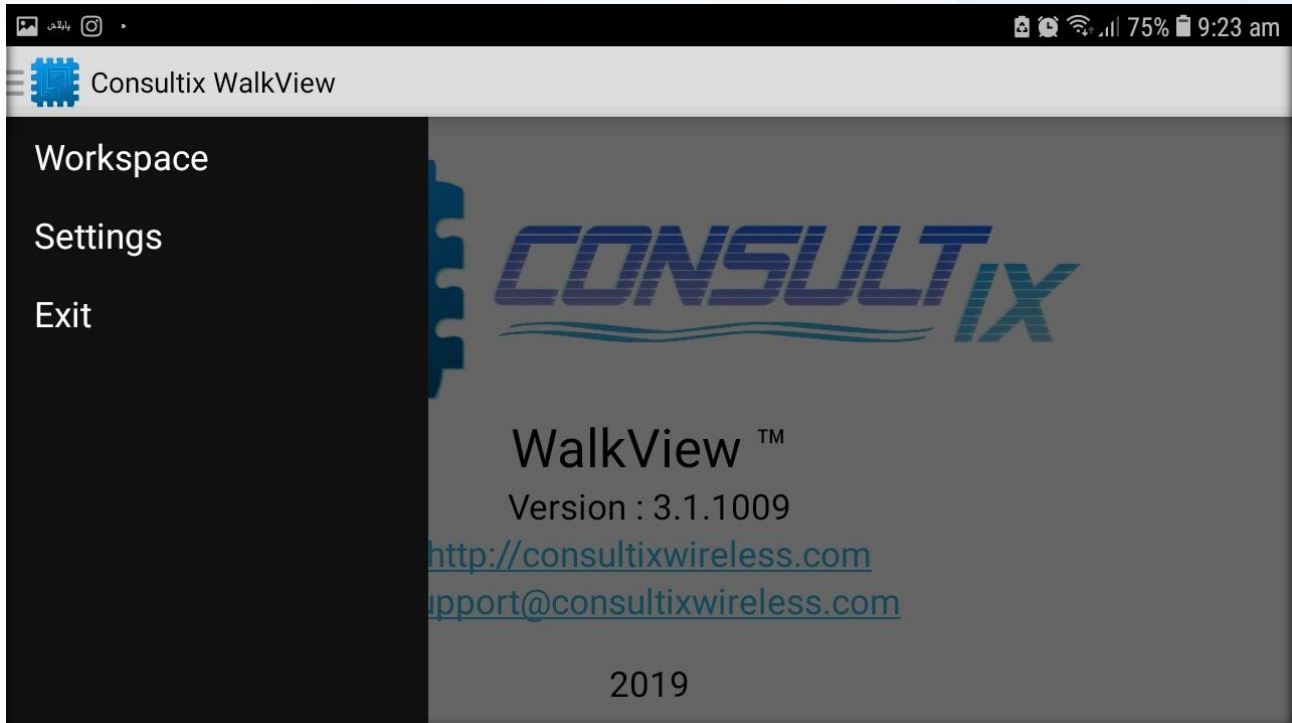

Figure 4: WalkView Main Window
1. On Consultix WalkView Main Window, tap Consultix Logo at the upper-left corner then choose “**Settings**” to configure the WalkView settings as depicted in Figure 4 below